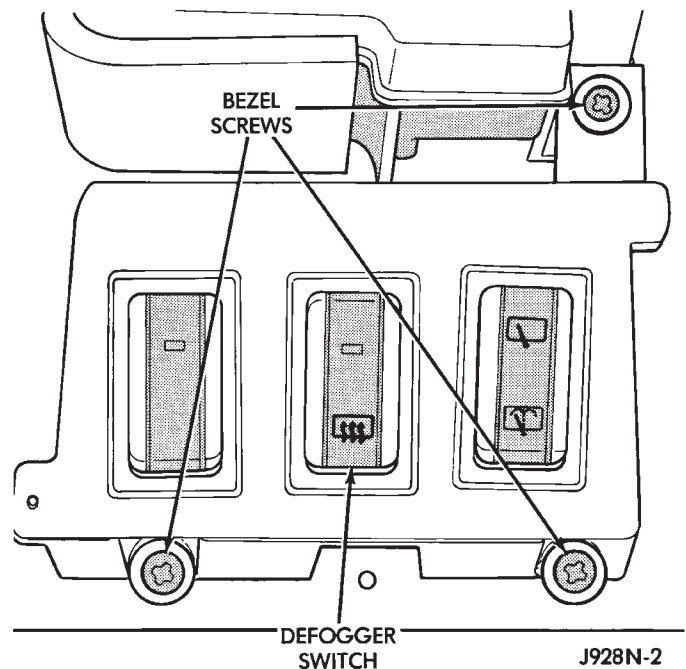

Fig. 4 Defogger Switch—YJ
- (2) Slide shroud toward the steering wheel.
- (3) Remove 3 screws (Fig. 4).
- (4) Unplug the connector from the defogger switch.
- (5) Squeeze the ends of the switch to release the plastic retaining fingers and push outward.
- (6) To install, depress the rear window defogger switch into the bezel until the retaining fingers lock behind the bezel.
- (7) Plug the connector on the switch.